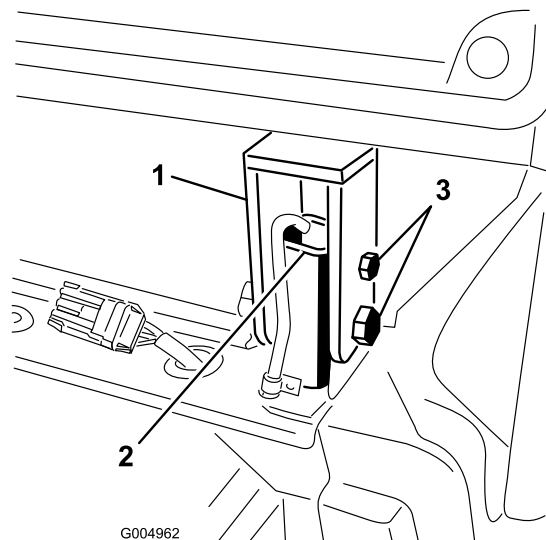

Figure 117
27. Tighten the bolts and nuts securing the rear cab mounts to the ROPS posts (Figure 117). Adjust the floor jack if the bolts are binding and difficult to remove.